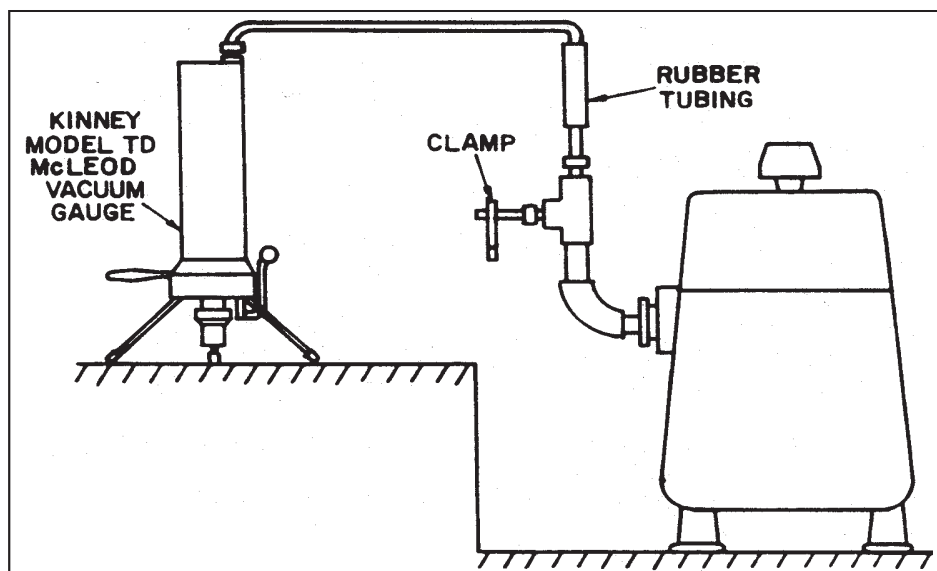

Figure 5. Pump test manifolding
If the processing time increases or the ultimate pressure becomes poor with no recent change in the process or in system configuration, test the pump to determine if the trouble is in the pump or the connected process equipment. To check the condition of the pump, measure the blank-off pressure as illustrated in Figure 5 using a McLeod Gauge. If possible, also read the blank-off pressure with a thermistor or thermocouple gauge. Refer to Figure 4 for a listing of common faults in vacuum systems.
1. Close the pump inlet by means of the isolation valve or a short segment of manifolding as shown in Figure 5.